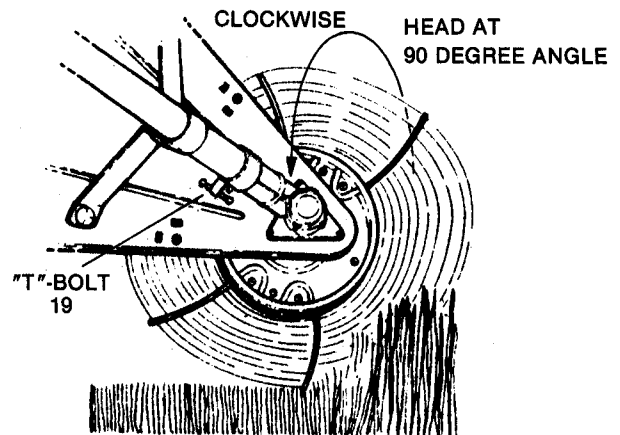

FIG. 7 - EDGING OPERATION
**ADJUSTING FOR VERTICAL EDGING** - Locate pin (Y) in LEFT hole in MAIN FRAME (13) top. Loosen "T"-BOLT, rotate head CLOCKWISE (90°) until it stops - retighten "T"-Bolt. Refer to FIG. 7.